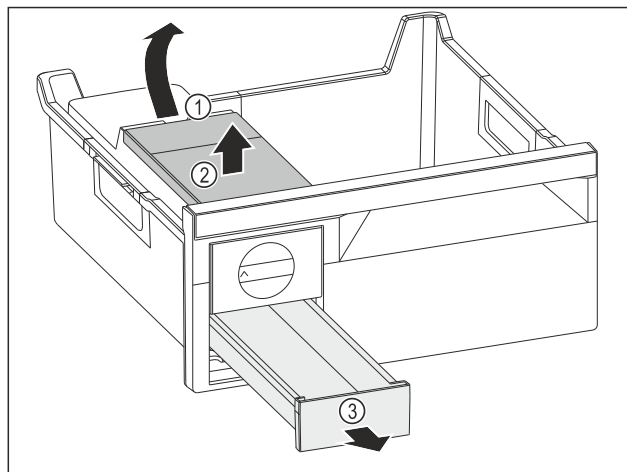

Fig. 82
- Removing the water tank: Lift the water tank by the recess Fig. 82 (1).
- Remove the water tank Fig. 82 (2) upwards.
- Remove the ice cube drawer Fig. 82 (3) to the front.